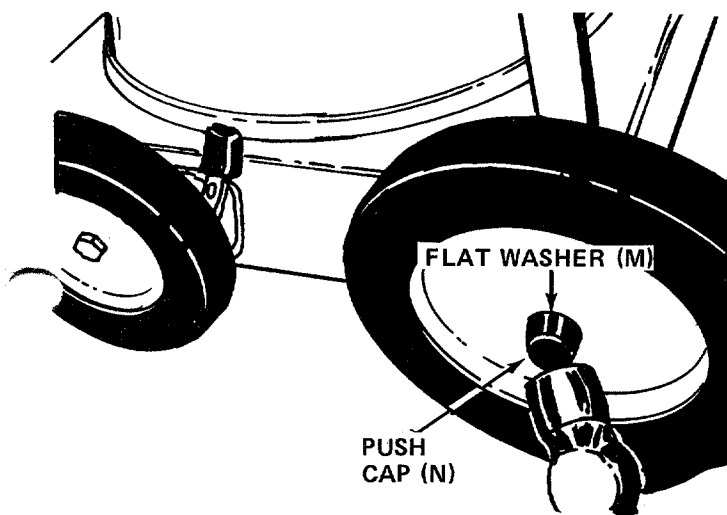

FIGURE 5
- Place rear wheels in position on the shafts, then another flat washer (M). Secure with black push cap (N) by placing the push cap in position and tapping on with hammer or rubber mallet. See figure 5.